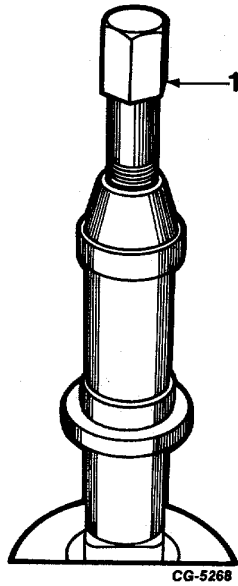

Fig 22 Bushing Remover SE-1955-5 Installed in Lower Bushing
- Install bushing remover SE-1955-5 in lower bushing (Figure 22).